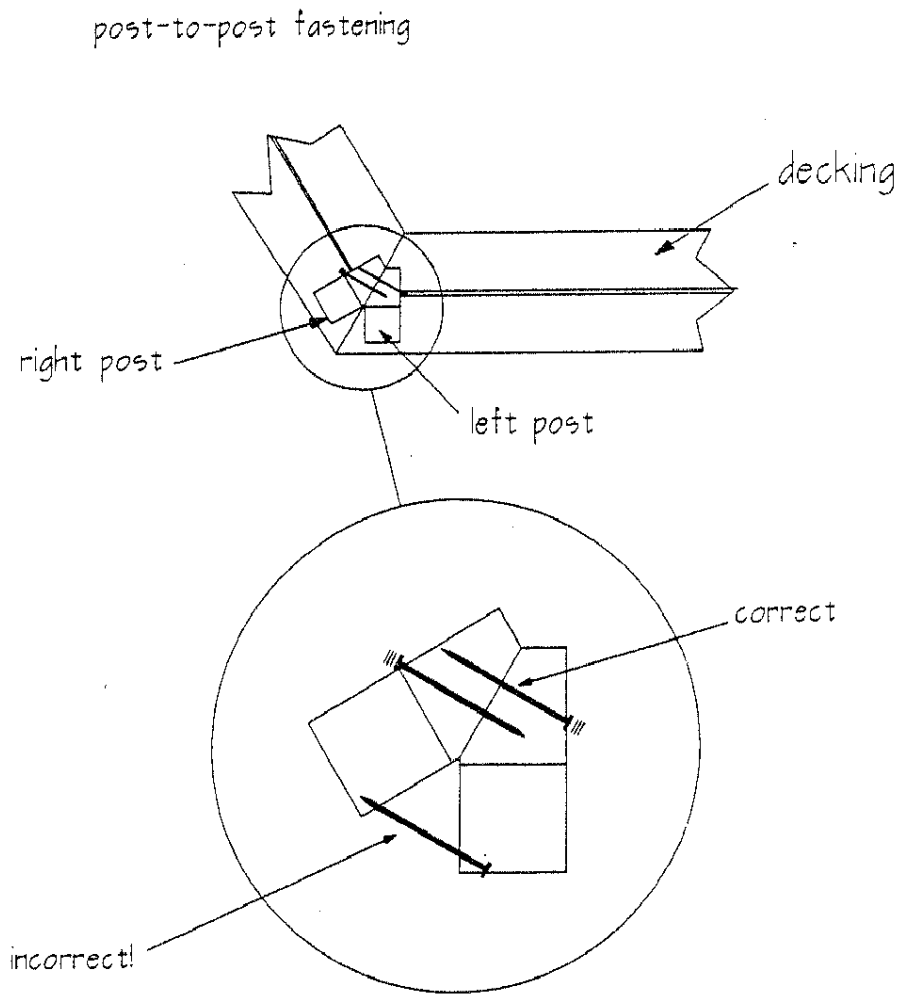

Figure C3
1. First the Wall sections must be attached together. The beveled edges of each Post will be attached to the beveled edge of the next corresponding Wall section. Use ten  screws per pair of Posts and be sure to alternate the screws between the two Posts at each joint. Also be sure to angle the screws into the Post so they do not pierce through to the other side of the posts. You may wish to pre-drill these holes before drilling to give you a better finish. See **Figure C3** for details.